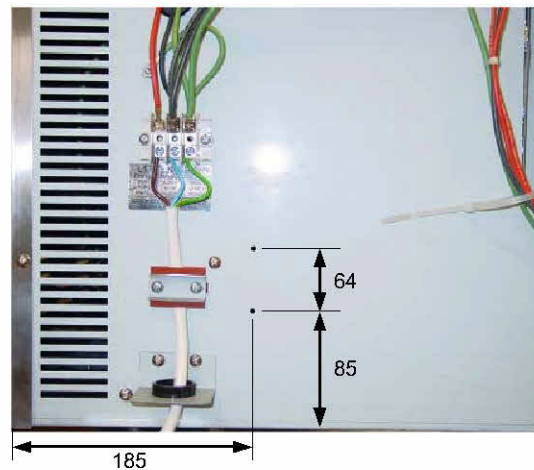

Figure A.1
- 2) Mark and drill 2x ø3.5mm holes as per figure A.1.